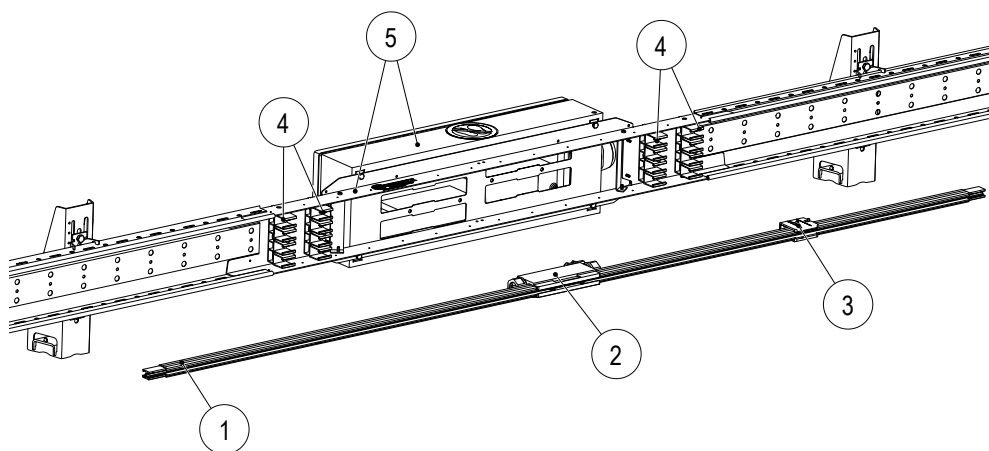
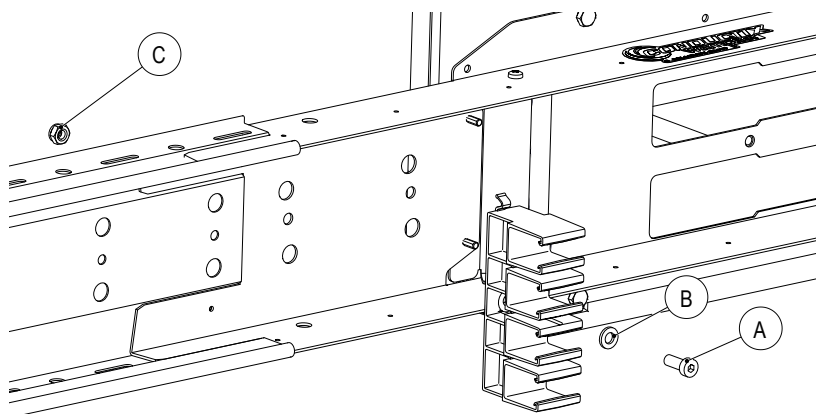
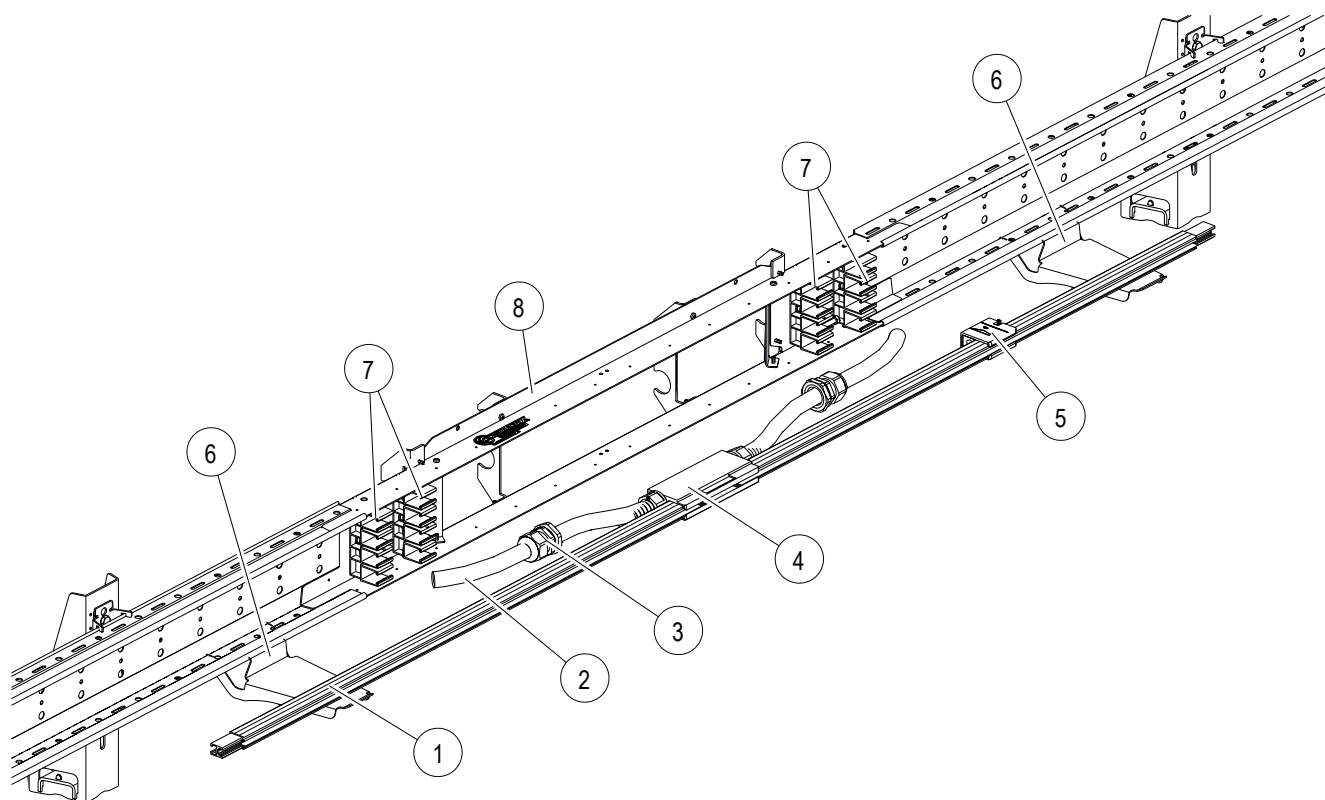

Fig. 24: Line feed option with terminal box
Fig. 25: Screw hanger clamp onto fastening frame
Fig. 39: Line feed option with connecting cables
The hanger clamps (4) for the preassembled anchor points (3) on the conductor rail with line feed (1) must be installed on the ProShell support profile on the installation site using the cylinder screw M6x16 (A), washer (B) and hexagon nut M6 (C) (see Fig. 24 and Fig. 25)!
The hanger clamps (7) for the preassembled anchor points (5) on the conductor rail with line feed (1) must be installed on the ProShell support profile at the installation site using the cylinder screw M6x16 (A), washer (B) and hexagon nut M6 (C) (see Fig. 24 and Fig. 39)!
2. Place the conductor rail with the installed line feed and anchor point (1) on the auxiliary consoles (6) in order to be able to connect the conductor rail (1) to the additional conductor rails on the right and left (see Fig. 39). For better handling when connecting, auxiliary consoles should also be hooked onto the ProShell support profile for the additional conductor rails (also see BAL0812-0001).